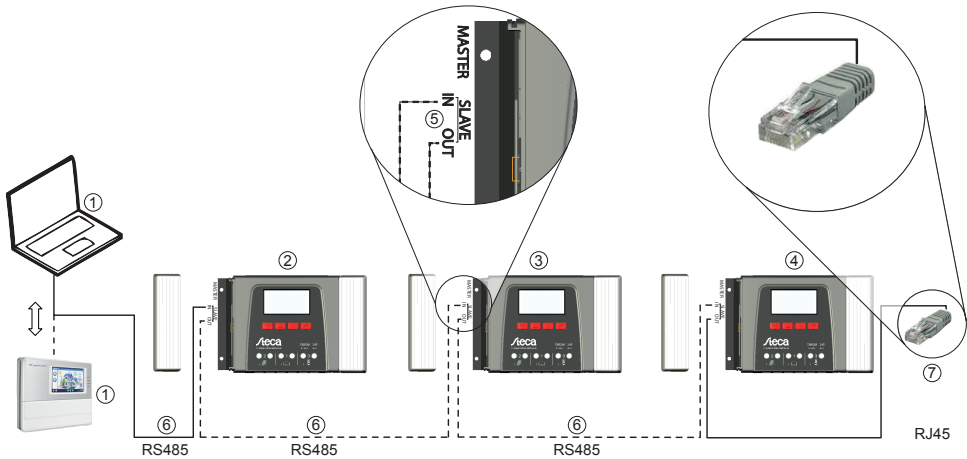

Fig. 2: Wiring the Slave bus
- Only 1 Master may be connected ① (Fig. 2). Possible Masters: PC or data logger or another Steca Master device suitable for use in stand-alone systems.
- Each Slave ②, ③, ④ must have its own unique address within a range of 1 to 99; duplicate addresses must not be present. Set the Slave address of the controller under 'Main menu' ► 'System settings' ► 'RS485 slave addr.'.
- The Master at one end of the bus and the last Slave at the other end must be terminated ⑦; see Master/Slave instructions.
- Bus cable ⑥: Standard RJ45 cable (Cat-5 Patch cable, 1:1, not supplied, for length see ☞ 18.2).